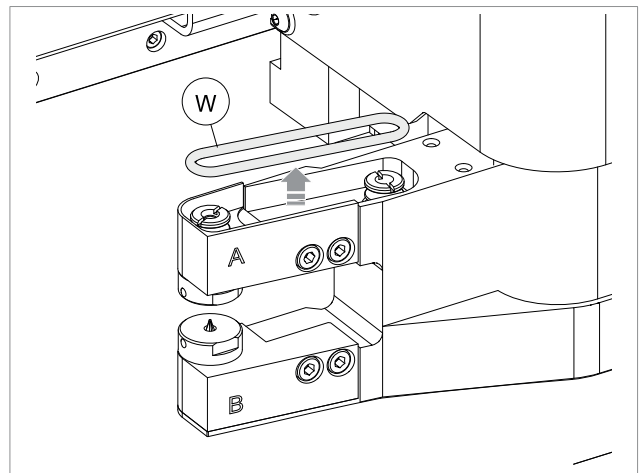

Fig. 149
- 2) Raise the protective shield (C).
- 4) Remove the three screws (T3) and cover (T4) to reach the belt (W).
- 5) Remove the worn or torn belt (Fig. 149).